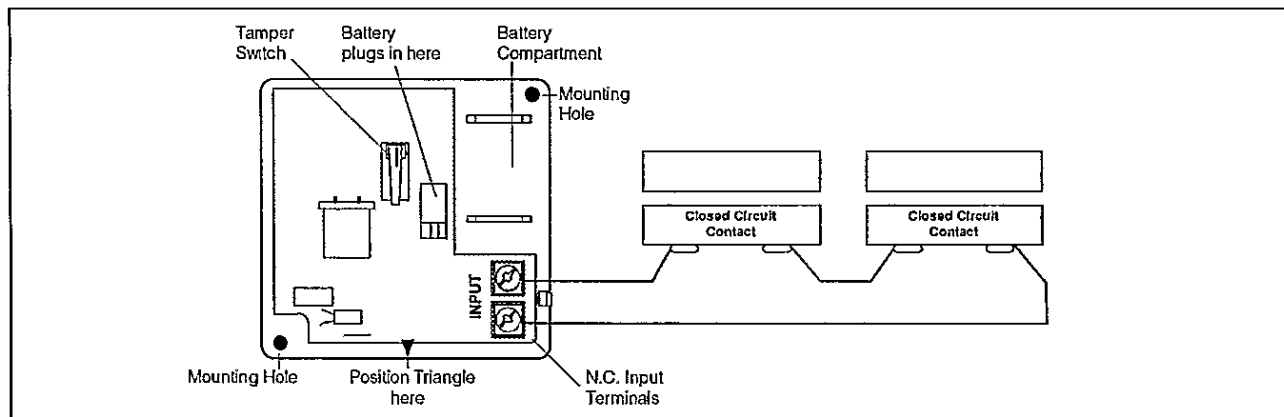

Figure 2
2. Mount the transmitter utilizing the holes located in the upper right and lower left hand corners of the base with the (2) sheet metal screws provided.
3. Attach the closed circuit loop wires to the two input terminals (See Figure 2). 22 gauge or larger, solid or stranded wire is recommended. Stranded wire offers lower resistance and additional protection against breakage. Do not exceed 100 ohms loop resistance.